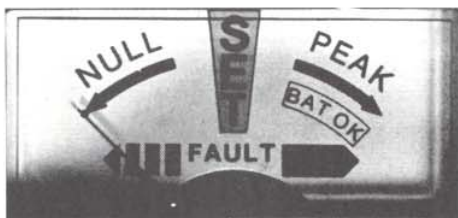

Fig. 12 — 573A/P Receiver Meter
- 3) Except in FAULT mode, the Receiver Signal Level Meter (Fig. 12) indicates the strength of the tone being received. Needle deflects to the right (PEAK) at greatest volume. Needle deflects to the left (NULL) for weak or canceled tone. The yellow center zone (SET) provides a reference for cable depth location. In fault mode, the striped red and solid green FAULT arrows indicate the leg of the Earth Contact Frame closest to a